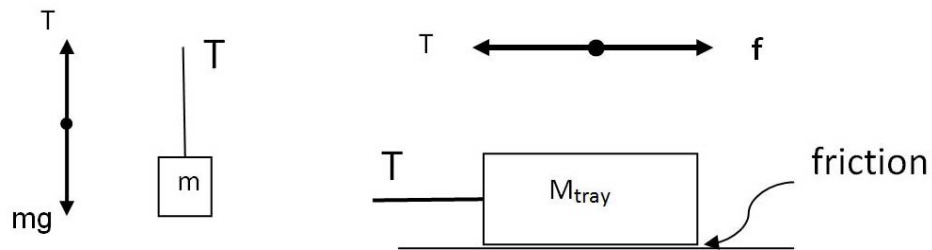
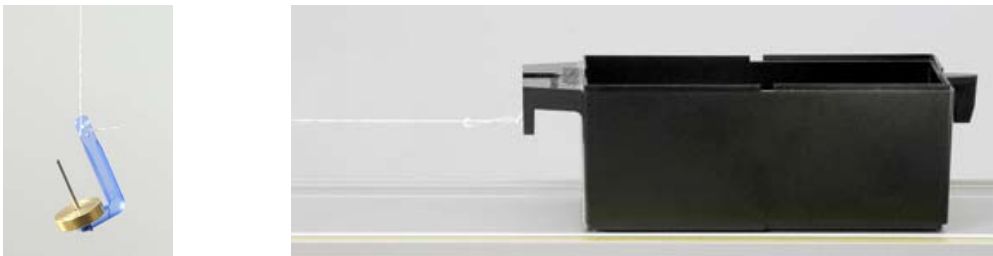

Figure 3: Free-body diagrams for both masses
Figure 4: Falling mass pulls the Friction Tray
6. Cut a piece of string about 1.2 m long. Tie to one end of the tray as shown in Figure 4.
The mass on the hanger (see Fig. 4) is falling and the Friction Tray is sliding to the left. The free-body diagrams (see Fig. 3) show the forces acting on each of the masses. The tension,  $T$ , is assumed equal for both parts of the string. Sign convention is adopted such that the acceleration,  $a$ , for the tray is positive to the left, and acceleration for the falling mass is positive downward.